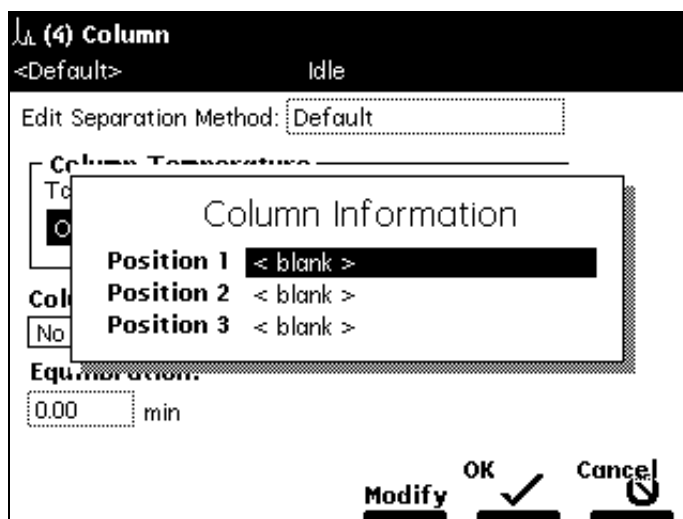

Figure 5-14 Column Information Dialog Box
1. Press the **Column Info** screen key in the Column screen (Figure 5-13). The Column Information dialog box appears (Figure 5-14).